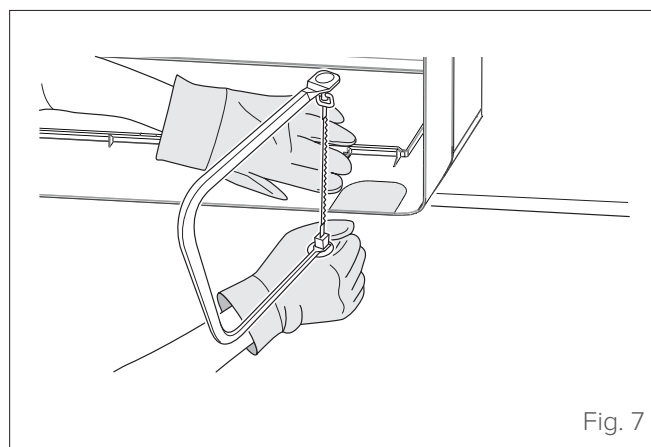

Fig. 7
- 2 If the wall hole is behind the unit, leave the pre-cut panel in place. If the wall hole is on the side of the indoor unit, remove the pre-cut plastic panel from the side of the unit using a jig saw (see “Fig. 7”).